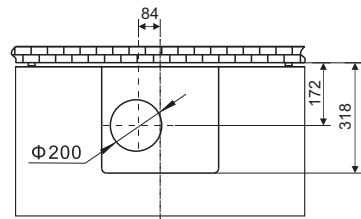

Figure 2
- As figure (1), drill 4 holes of $\Phi 10\text{mm}$ horizontally on the wall, hole depth 90mm, and hole spacing as n figure (1),
- Install the air duct cover (if needed): If the kitchen room has suspended ceiling and flexible duct through the ceiling (the opening size as Figure 2);